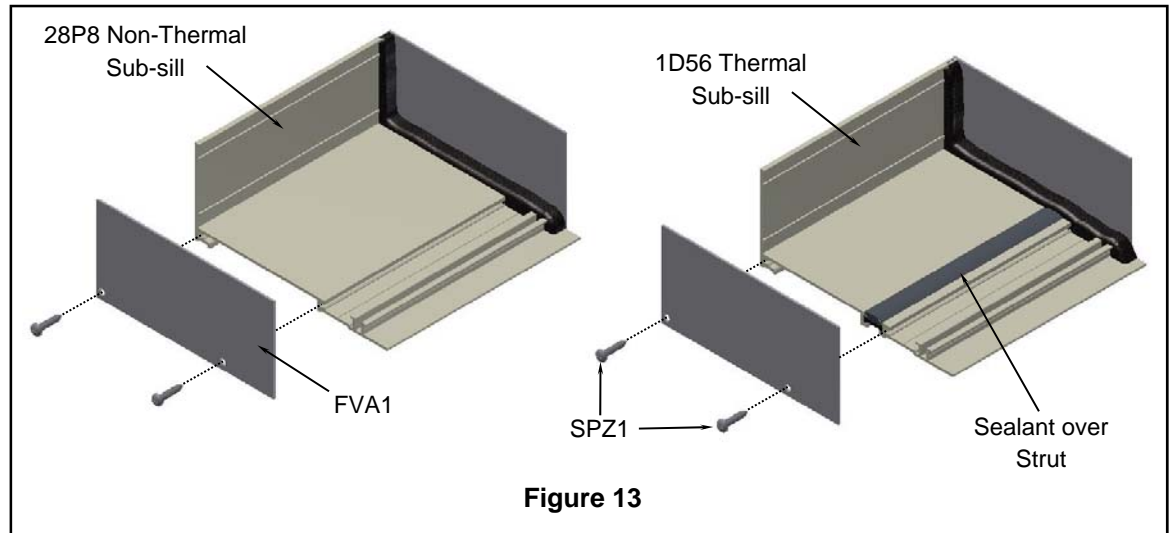

Figure 13
- The end dams shall be attached to the sub-sill with 2 - SPZ1 fasteners per end. Seal the end of the sub-sill with silicone sealant before attaching the end dam to the sub-sill. Tool the sealant at the interior joint of the end dam to ensure a good watertight seal. See figure 13 below. If end dams are not required, ensure the sub-sill is tight against the condition and seal the joint between the sub-sill and condition similar to figure 13.